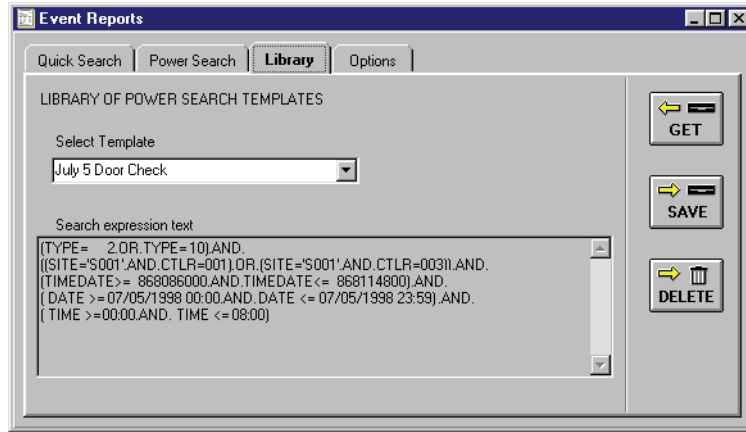

Figure 7-37: Power Search Library Tab
As operators develop search expressions to generate specific event reports, these expressions can be saved into a library (see Figure 7-37). Once in the library, they can be retrieved and run at specific times, and they can be deleted.
1. To save a search expression, click on the **Library** tab (see Figure 7-37). Verify that the expression to be saved is entered in the “Search Expression” field.
1. To retrieve a search expression, click on the **Library** tab (see Figure 7-37 on page 30 of this section).
5. The search expression is then displayed in the “Search expression text” field. The operator can review the expression to verify it is the correct one (see Figure 7-37 on page 30 of this section).